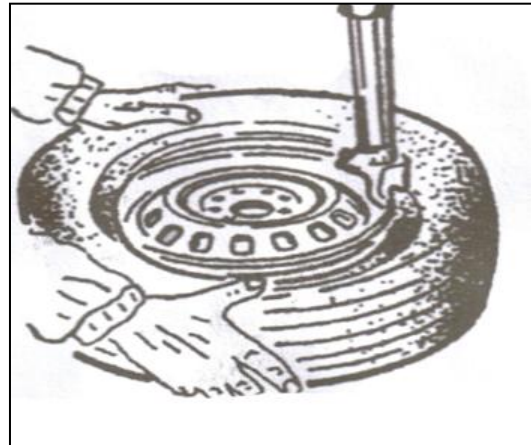

FIG13
- c) If there is tube, place it in the tire and plug the core. And assemble the lip according to the above mentioned step (FIG13). In the process of clamping the rim, do not reach your hands in between the rim and the claw to avoid the damage to the personnel.